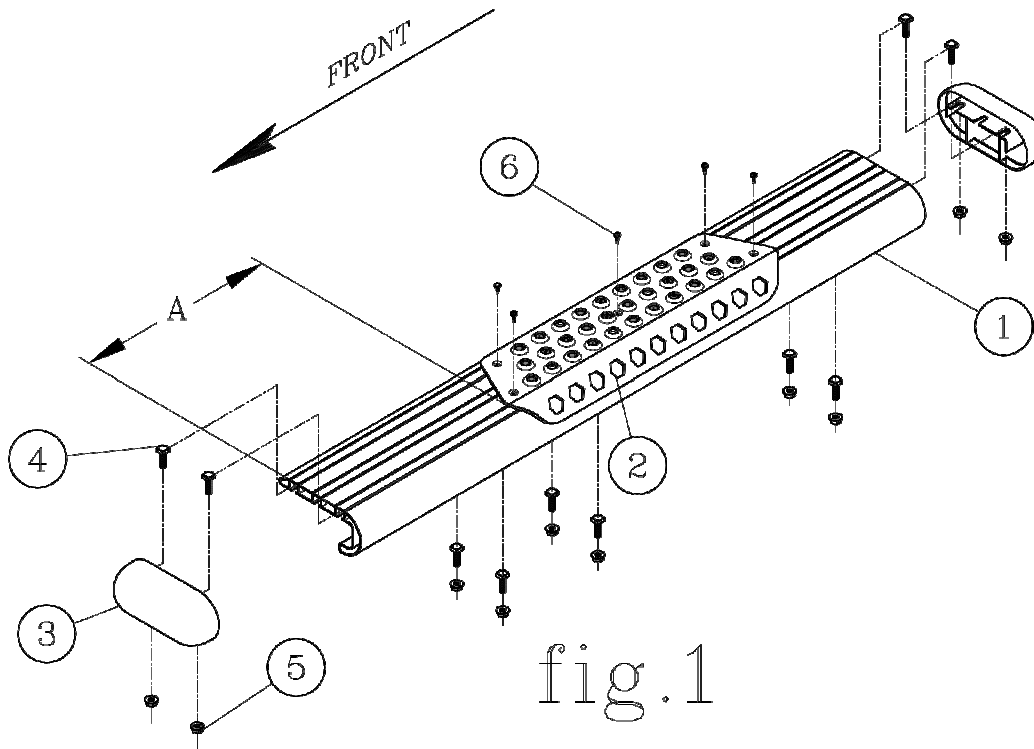

fig.1
3. BEFORE ATTACHING THE O-MEGA STEPS TO THE BRACKETS, PLACE THE STEP PADS (ITEM #2) ON TOP OF THE STEP PLATES. USE THE TABLE ON SHEET #2, AS A GUIDE TO POSITION THE STEP PAD FOR YOUR PARTICULAR VEHICLE. WHEN INSTALLING THE PADS ON THE STEPS, DRILL (5) 1/8" HOLE USING THE STEP PAD AS A GUIDE. ATTACH WITH (5) 8-18X1/2" TEK SCREWS (ITEM #6) PROVIDED. REPEAT FOR ALL STEP PADS.
5. INSTALL THE END CAPS (ITEM #3) AS SHOWN IN *fig. 1* SNUG UP THE NUTS. BE CAREFUL NOT TO DEFORM THE PLASTIC
2. ON THE LEFT SIDE OF THE VEHICLE INSTALL TWO 1.5" ISOLATOR WASHERS (ITEM #3) THE STEP MOUNTING BRACKET (ITEM #2) AND TWO M8-1.25 FLANGE NUTS (ITEM #4) ON THE FACTORY PROVIDED STUDS ON THE INSIDE OF THE ROCKER PANEL AS SHOWN IN FIGURE 1.